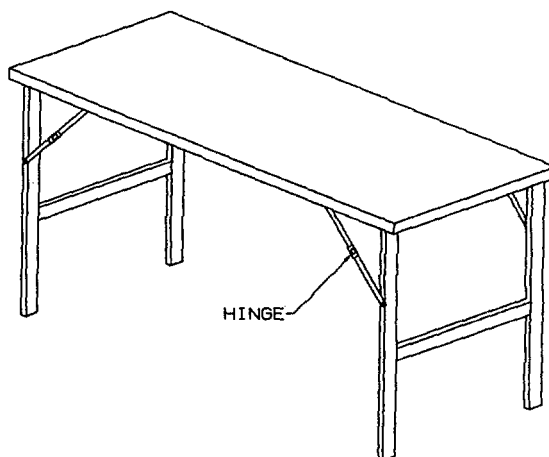

Figure 1-7 Table
e. The table, which is provided as a work station area, is illustrated in Figure 1-7.